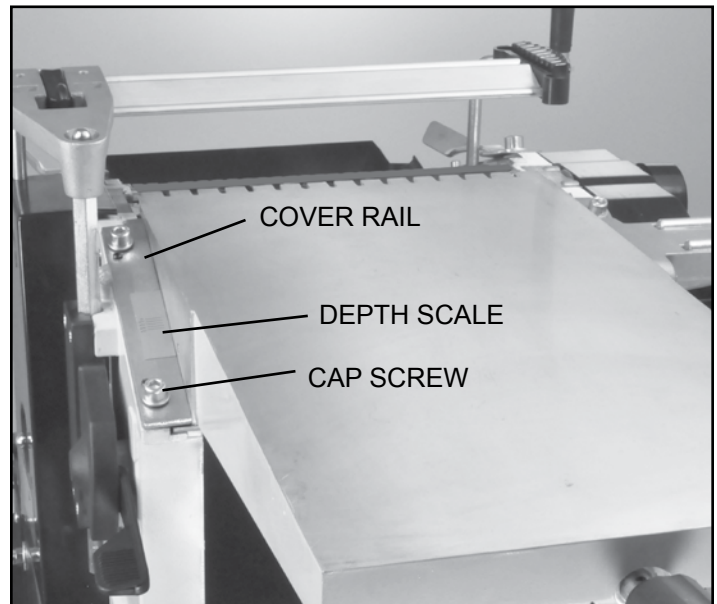
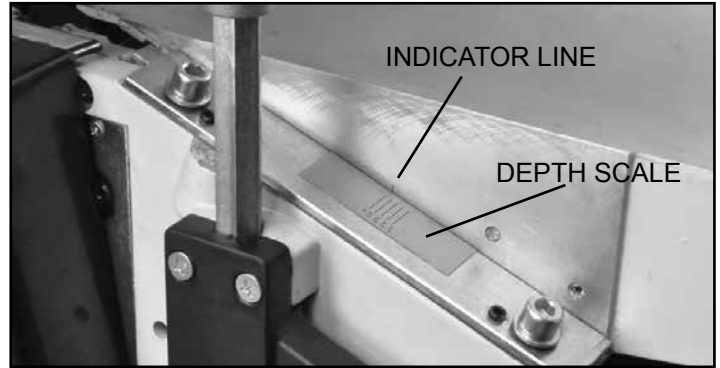

FIG. 9
FIG. 15
5. Install the infeed table by positioning it under the table cover rails and wind the depth of cut bar until the uppermost line on the depth Scale is registered. See FIG. 15, page 12. Re-fit and secure the table cover rails, FIG. 9. **NOTE:** These rails should not be fully tightened, as the table needs to slide up and down in order to adjust the depth of cut. As a guide, fully tighten the socket head cap screws and then back them off a 1/4 turn.
1. The infeed table should be set to the upper line on the Depth Scale. There is a thin Line cut into the metal side of the infeed table for indicating the table position with the cutterhead for regulating the depth of cut. FIG. 15.
1. Set the infeed table to the '0' setting on its depth of cut scale (see Infeed Table Adjustment above, FIG. 15).